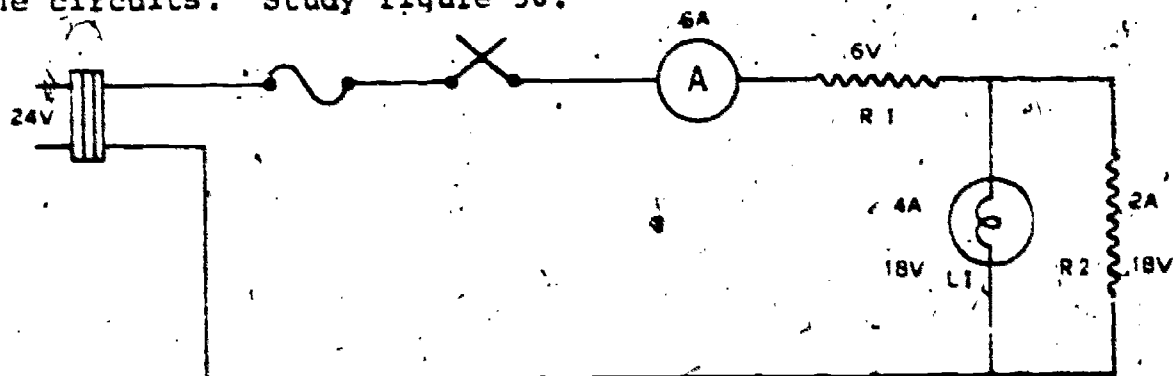

Figure 50. Voltage and Current in a Series-Parallel Circuit
**CHARACTERISTICS OF SERIES-PARALLEL CIRCUITS.** The characteristics for the series-parallel circuit are a combination of those for the series and the circuits. Study figure 50.